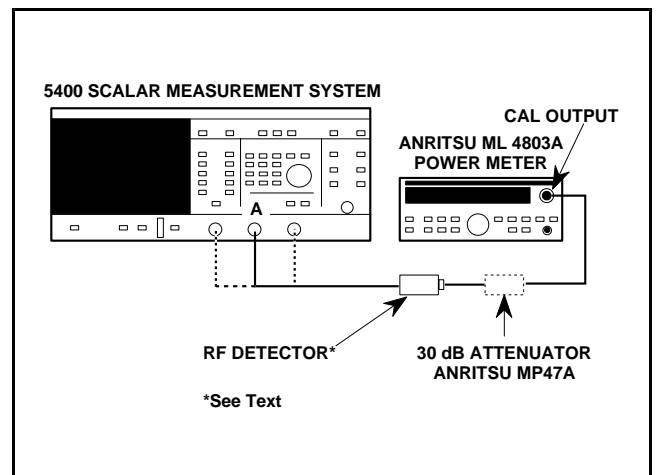

Figure 5-4. Equipment Setup for 50 MHz Standard Source Signal Channel Verification Test
- Set up the equipment as shown in Figure 5-4, and turn the equipment on.